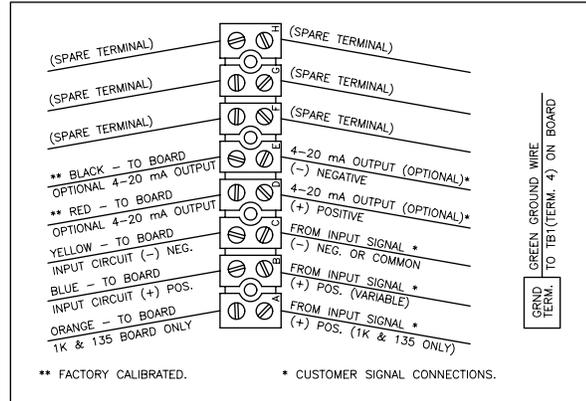

Figure 6
- h) Reconnect the two new black solenoid coil wires to the terminal strip at locations 7 and 8. Refer to figure 6 in the appendix.